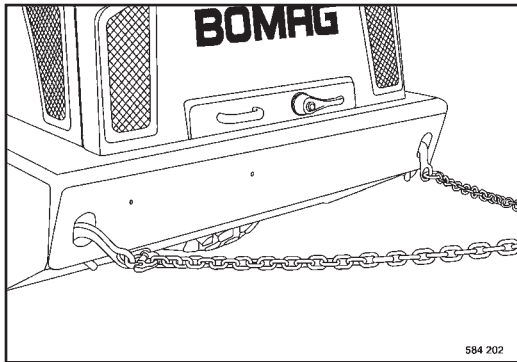

Fig. 63
- Attach chains (Fig. 63) or towing ropes to the lifting hooks.
- Slacken the counter nuts on the spindles of both high pressure relief valves (Fig. 63) to create a bypass around the travel pump.